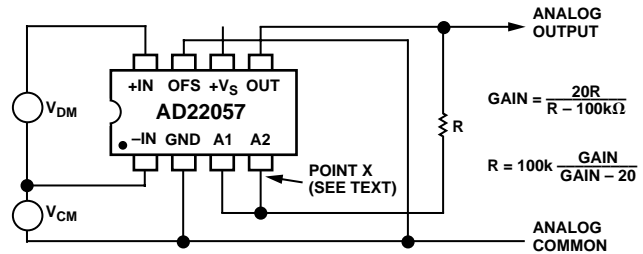
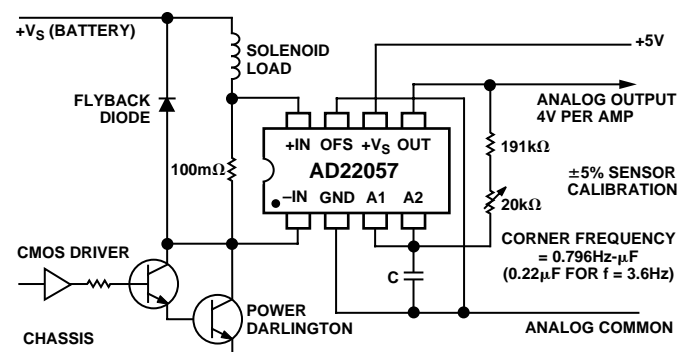
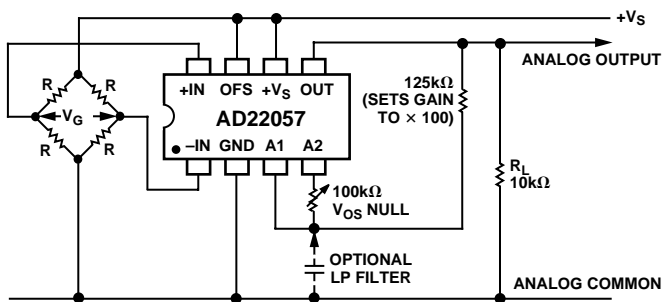

Figure 5. Achieving Gains Greater Than  $\times 20$
Figure 10. Current Sensor Interface. Gain Is  $\times 40$ , Single-Pole Low-Pass Filtering
Figure 12. Typical Connections for a Strain Gage Interface Using the Offset Feature
**Increasing the Gain.** The gain can be raised by connecting a resistor from the output of the buffer amplifier (Pin 5) to its noninverting input (Pin 4) as shown in Figure 5. The gain is now multiplied by the factor  $R/(R-100\text{k})$ ; for example, it is doubled for  $R = 200 \text{ k}\Omega$ . Overall gains of up to  $\times 160$  ( $R = 114 \text{ k}\Omega$ ) are readily achievable in this way. Note, however, that the accuracy of the gain becomes critically dependent on resistor value at high gains. Also, the effective input offset voltage at Pins 1 and 8 (about six times the actual offset of A1) limits the part's use in very high gain, dc-coupled applications. The gain may be trimmed by using a fixed and variable resistor in series (see, for example, Figure 10).
Once again, a small offset voltage will arise from an imbalance in source resistances and the finite bias currents inherently present at the input of A2. In most applications this additional offset error (about  $130 \mu\text{V}$  at  $\times 40$ ) will be comparable with the specified offset range and will therefore introduce negligible skew. It may, however, be essentially eliminated by the addition of a resistor in series with the parallel sum of R and  $100 \text{ k}\Omega$  (i.e., at "Point X" in Figure 5) so the total series resistance is maintained at  $100 \text{ k}\Omega$ . For example, at a gain of  $\times 30$ , when  $R = 300 \text{ k}\Omega$  and the parallel sum of R and  $100 \text{ k}\Omega$  is  $75 \text{ k}\Omega$ , the padding resistor should be  $25 \text{ k}\Omega$ . A  $50 \text{ k}\Omega$  pot would provide an offset range of about  $\pm 2.25 \text{ mV}$  referred to the output, or  $\pm 75 \mu\text{V}$  referred to the attenuator input. A specific example is shown in Figure 12.
If the gain is raised using a resistor, as shown in Figure 5, the corner frequency is lowered by the same factor as the gain is raised. Thus, using a resistor of 200 kΩ (for which the gain would be doubled) the corner frequency is now 0.796 Hz-μF, (0.039 μF for a 20 Hz corner).
A typical automotive application making use of the large common-mode range is shown in Figure 10.
The AD22057 can be used to interface a strain gage to a subsequent process where only a single supply voltage is available. In this application, the midscale offset feature is valuable, since the output of the bridge may have either polarity. Figure 12 shows typical connections.
An ac excitation of up to  $\pm 2$  V can also be used because the common-mode range of the AD22057 extends to  $-1$  V. Assuming a full-scale bridge output ( $V_G$ ) of  $\pm 10$  mV, a gain of  $\times 100$  might be used to provide an output of  $\pm 1$  V (a full-scale range of +1.5 V to +3.5 V). This gain is achieved using the method discussed in connection with Figure 5. Note that the gain-setting resistor does not affect the accuracy of the midscale offset. (However, if the gain were lowered, using a resistor to ground, this offset would no longer be accurate.) A  $V_{OS}$  nulling pot is included for illustrative purposes. One-, two- and three-pole filtering can also be implemented, as discussed in the Low-Pass Filtering section.
A unique method of feedback around A1, provided by R9 and R7, sets the closed-loop gain of the preamplifier to  $\times 10$  (from the input pins). The feedback network is balanced by the inclusion of R6 and R8. The small value of R7 results in a more practical value for R9 (which would have to be 2 M $\Omega$  if the feedback were taken directly to the inputs of A1). R8 is not directly connected to ground, but to an optional voltage of one half that is applied to Pin 7 (OFS). It is trimmed to within close tolerances through R10 and R11. This allows the output of A1 to be offset to midscale, typically  $+V_S/2$ , by tying Pins 6 and 7 together. (For an example of the use of this feature, see Figure 12.) The gain is adjusted by the single resistor R5, which acts only on the differential signal. More importantly, it also results in much less feed forward of the common-mode signal to the output of A1, which, being a single-supply circuit, has no means of pulling this output down toward ground in those circumstances where the common-mode input is very positive while the net differential signal is small. (The output of A1 is the collector of a PNP transistor whose emitter is tied to  $+V_S$ .) R16 is specifically included to alleviate this problem.